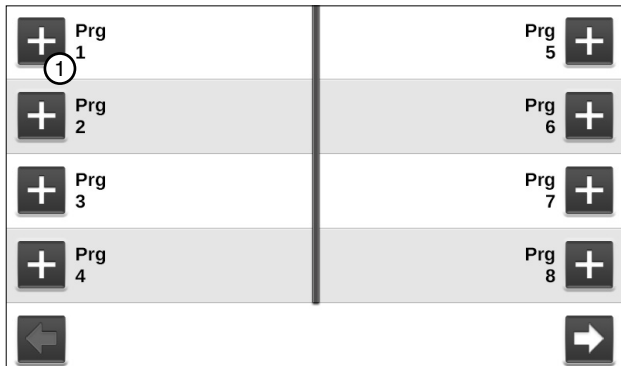

Figure 124-1 Step Programs Screen
1. Push **Menu**, **Programs**, and **Step Programs** to view the Step Programs screen. Refer to Figure 124-1